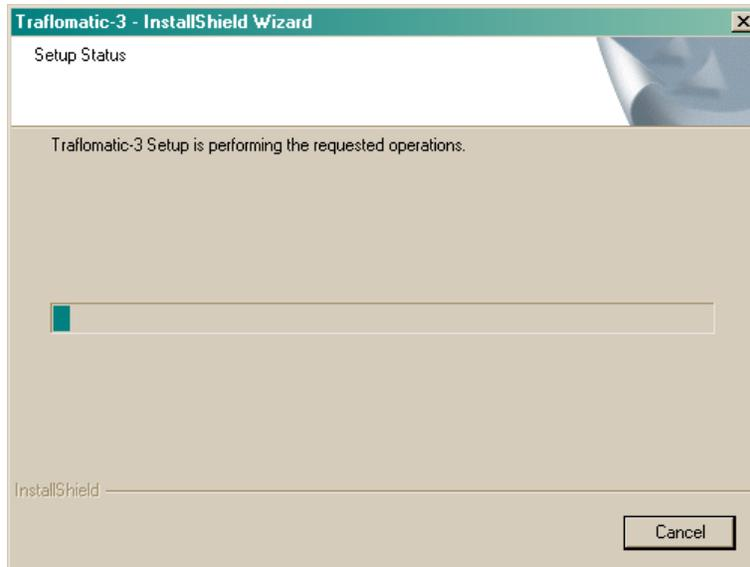
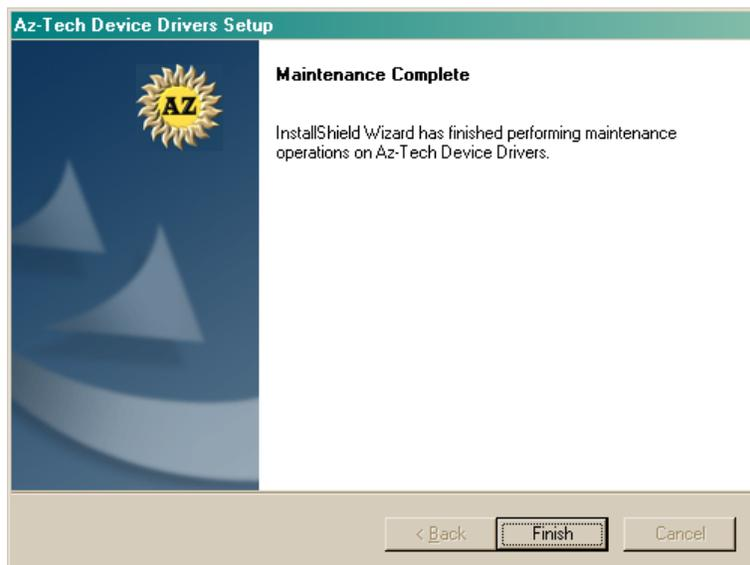

Figure 10
Figure 11
6. The Setup Status window will appear (Figure 10) showing the user the status of the installation procedure. Immediately upon completion of copying the FREEDOM Tool software, the Installation program will begin installing the necessary files for the Security Key Device. Upon the completion of the Security Key Software Installation a window similar to Figure 11 will appear. This window informs the user that the **Az-Tech Device Drivers Setup** is complete and the user should select Finish to complete the installation. At this time select the **Finish** pushbutton on the screen to complete the **Az-Tech Device Driver Setup** and continue with the FREEDOMWare Installation.